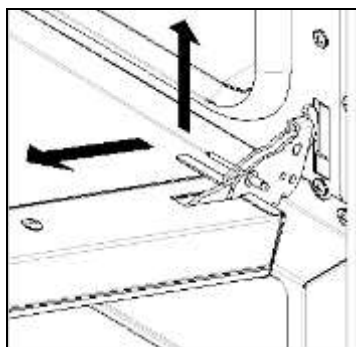

Fig. 6
- lift the door gently and withdraw it (Fig. 6);